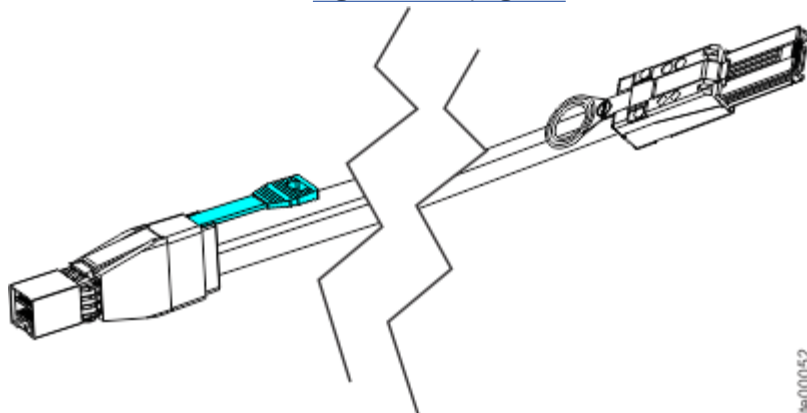

Figure 81. Mini SAS HD to Mini SAS cable
- Mini SAS HD to Mini SAS (Figure 81 on page 92)